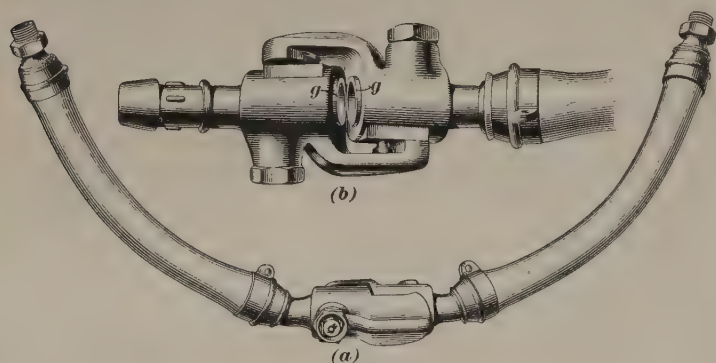

FIG. 9
29. Hose Couplers.—Fig. 9 (*a*) shows a set of hose couplers connected up in position on the train. View (*b*) shows the manner of coupling up, and is a view of the